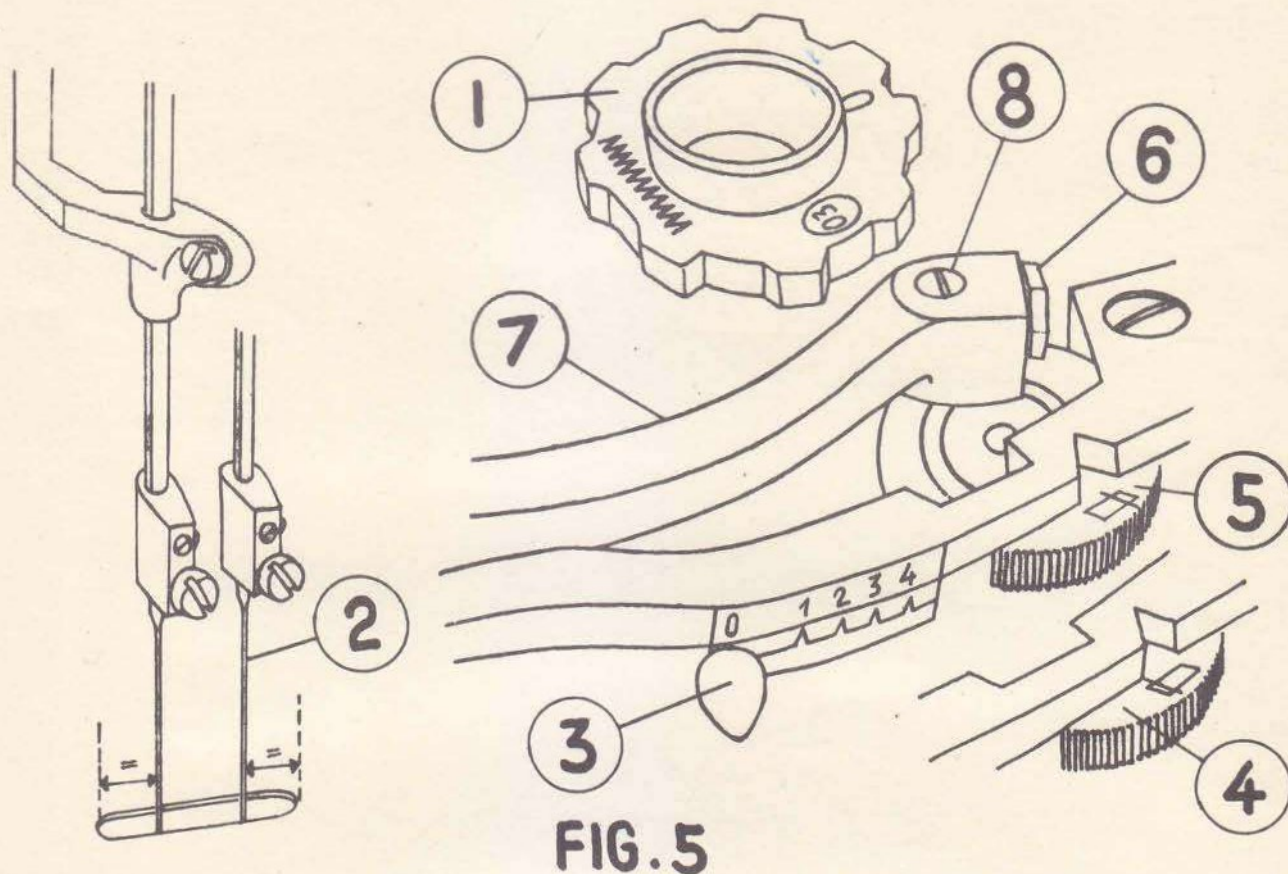

FIG. 5
4. ADJUSTMENT OF CENTERING WHEEL (for "Supermatic", Fig. 5)